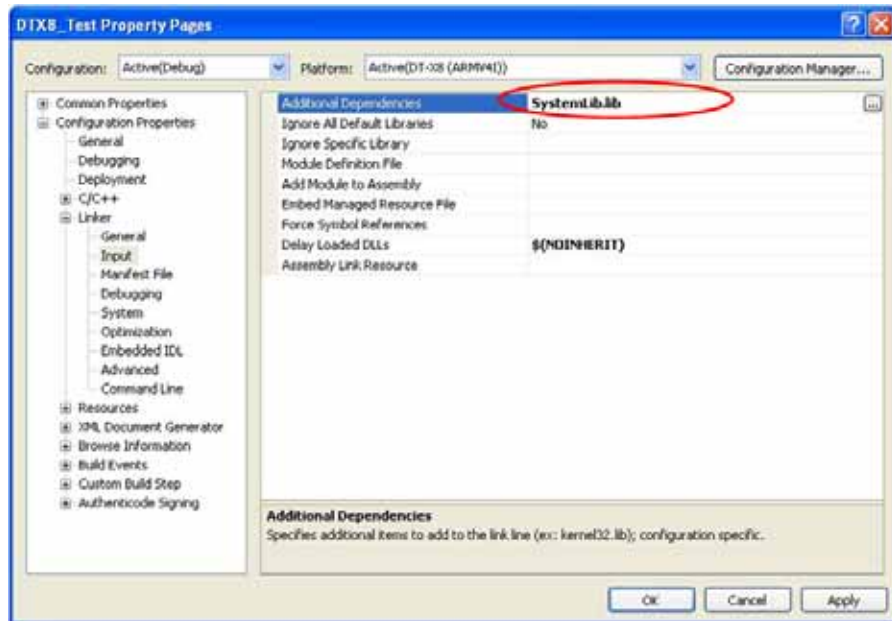

Figure 8.4
8. Choose **Properties** in the Project of Visual Studio 2008 or Visual Studio 2005, and navigate to **Configuration Properties** → **Linker** → **Input** → **Additional Dependencies** and then append **SystemLib.lib** (see red circle in Figure 8.4).